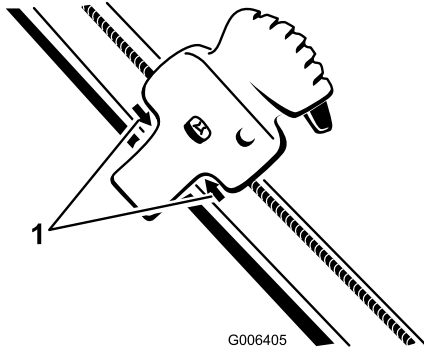

Figure 35
2. Position the Quick Shoot control between the 2 arrows located on the right side of the upper handle (Figure 35).